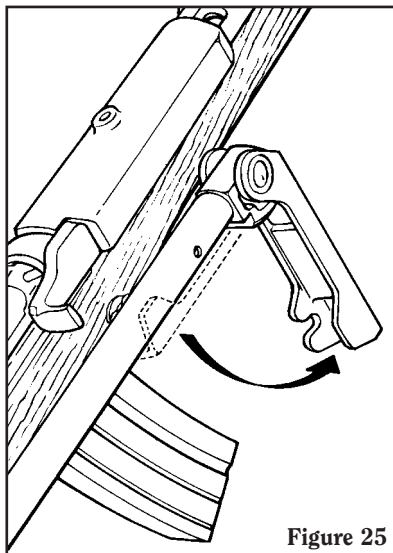

Figure 25
1. Swing the butt plate downward until it latches in its open position (See Figure 25).